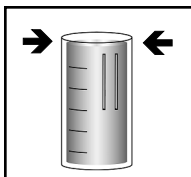

Figure 1
1. Fill the dilutor snapper cup to the top edge with **hypochlorite free water** (fig. 1).